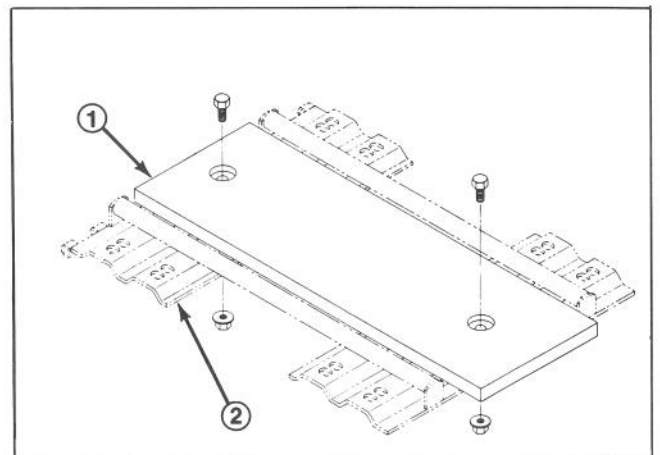

Figure 3
2. On Deluxe Seat, remove machine screws securing upper slides to seat bottom. Move seat slides inward to next set of mounting holes and resecure with machine screws and (4) M8 locknuts (loose parts). Apply Loctite to fasteners.
**Note:** For operators that are lightweight, less than 150 pounds and short in stature, less than 5'4" tall, an optional weight kit (Toro part no. 80-4210) for seat model 30796 is available from your Authorized Toro Distributor. Mount weight to top of seat plate with (2) capscrews and flange nuts as shown in Figure 3. When using weight, seat slide adjusters should be mounted in the forward set of holes provided in seat